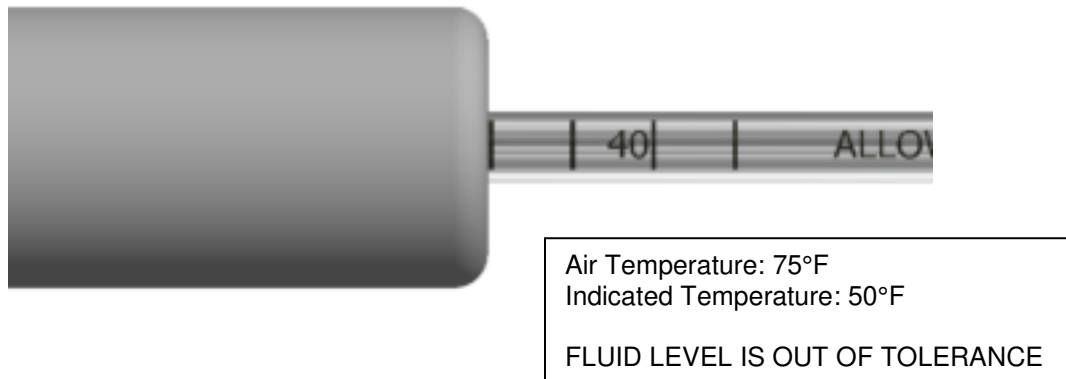

Figure 5: Fluid Check Example (Fluid Level out of Tolerance)
- 5) If the difference between the reading on the tool and the ambient air temperature is greater than 15°F, the fluid level must be adjusted (See Figure 5); complete "HYDRAULIC FLUID LEVEL ADJUSTMENT".